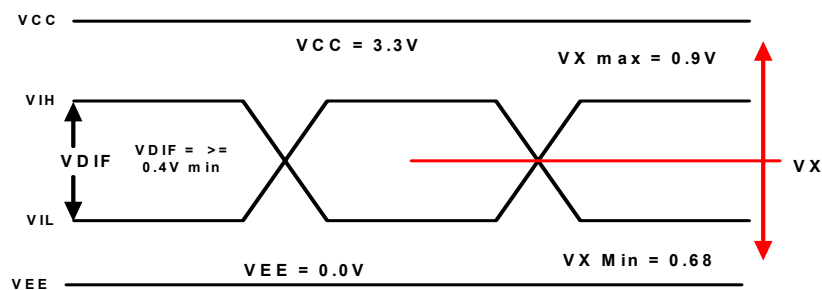

Figure 2. HSTL Differential Input Waveform Definitions
9. $V_X(AC)$ is the crosspoint of the differential HSTL input signal. Normal AC operation is obtained when the crosspoint is within the $V_X(AC)$ range and the input swing lies within the $V_{DIF}(AC)$ specification. Violation of $V_X(AC)$ or $V_{DIF}(AC)$ impacts the device propagation delay, device and part-to-part skew. Refer to Figure 2.